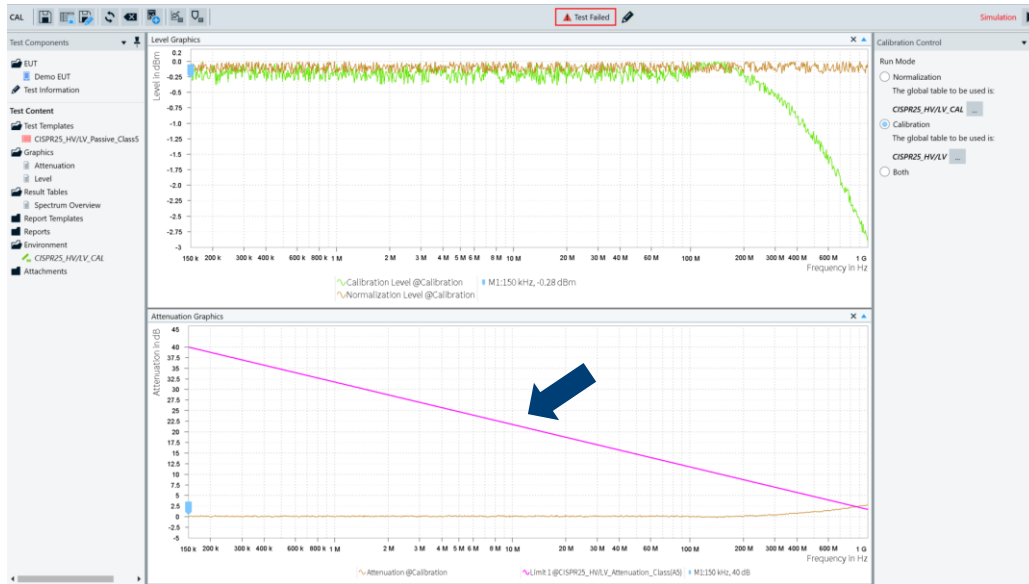

Figure 5: Coupling attenuation measurement test view after test execution.
- When the test is finished, the attenuation graph (coupling attenuation  $a_C = .S_{21}$ ) in Figure 5 should have measurements above the specified limit line for all frequencies to pass.